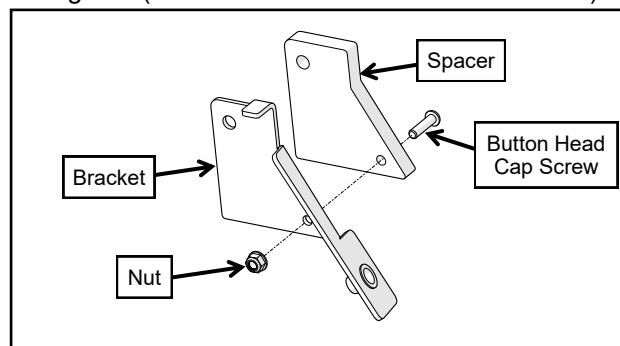

Fig. 1.10 (Install Spacer to Bracket)
- 1.10** Install spacer on outside of compressor mounting bracket as shown on Fig 1.10. Use hardware listed below.